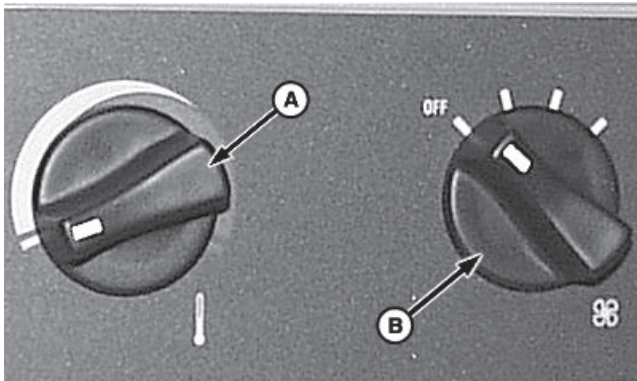
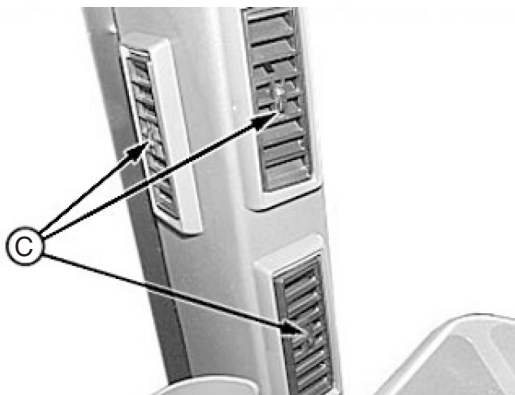

Figure 16. Heater and Air Conditioning Controls
Figure 17. Air Louvers
The recirculating fan controls air flow through the louvers (see Figure 17). Knob B (see Figure 16) selects one of three recirculating fan speeds or the off position. Knob (B) also turns on the A/C compressor in all positions except for off position.
Adjust air louvers (see Figure 17) with tabs (C) to prevent damage to louvers.